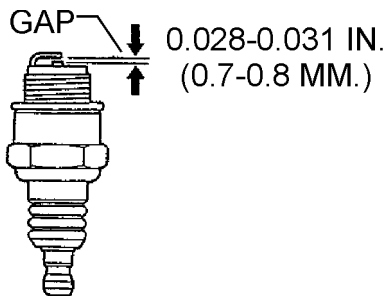

Figure 18. Spark Plug Gap
3. Remove and clean the spark plug (See Figure 18), then adjust the spark gap to 0.028~0.031 inch (0.6~0.7 mm). This unit has electronic ignition, which requires no adjustments.